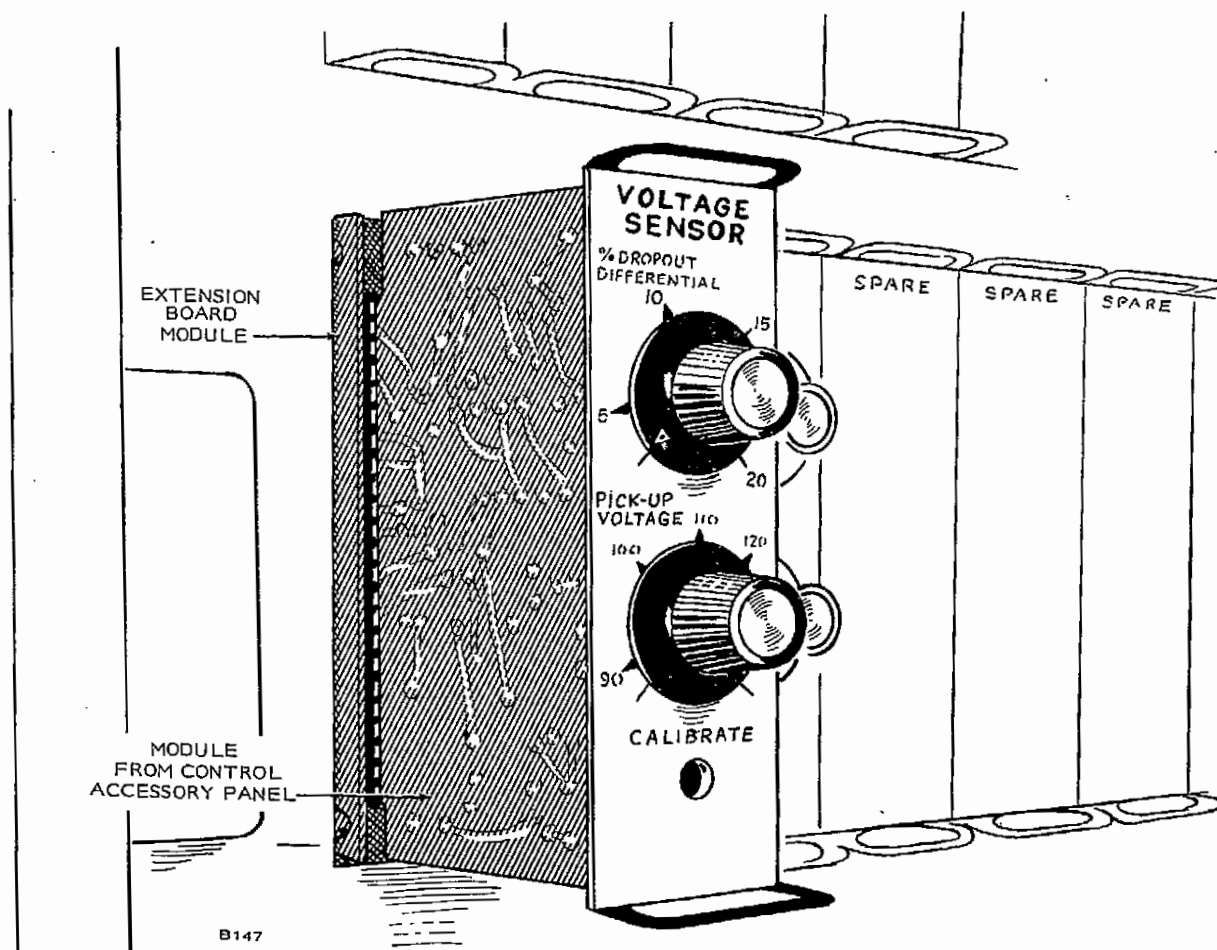

FIGURE 23. EXTENSION BOARD MODULE IN CONTROL ACCESSORY PANEL
8. Insert module removed in Step 5 into the back of the extension module (Figure 23).